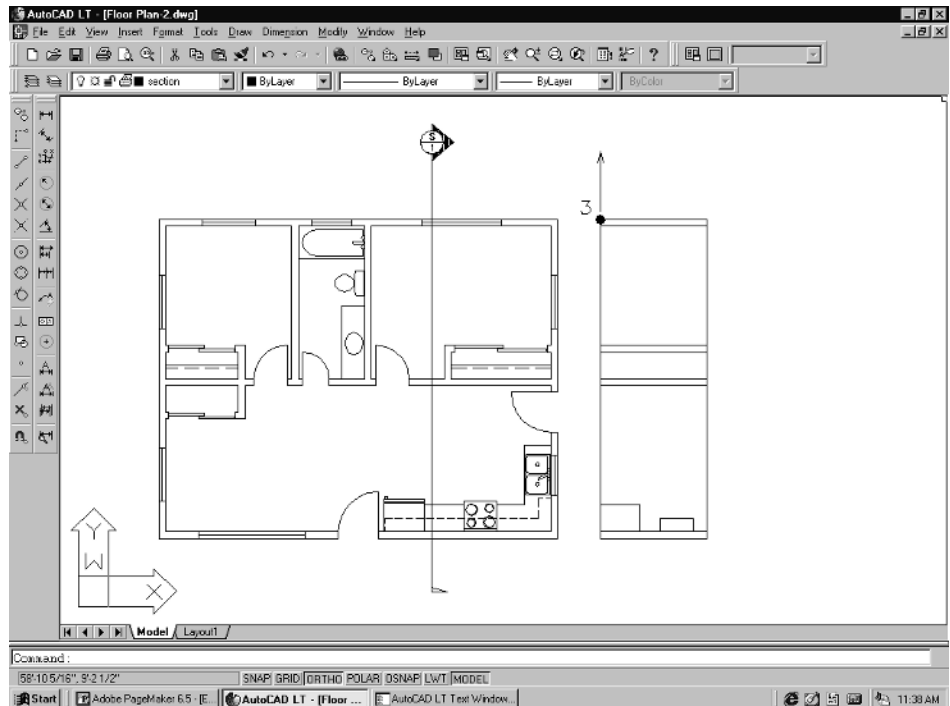

Figure 3-33
3. At the *Specify base point* prompt, pick wall corner 3 as shown in Figure 3-33. Then at the *Specify rotation angle or [Reference]* prompt, pull your cursor up.